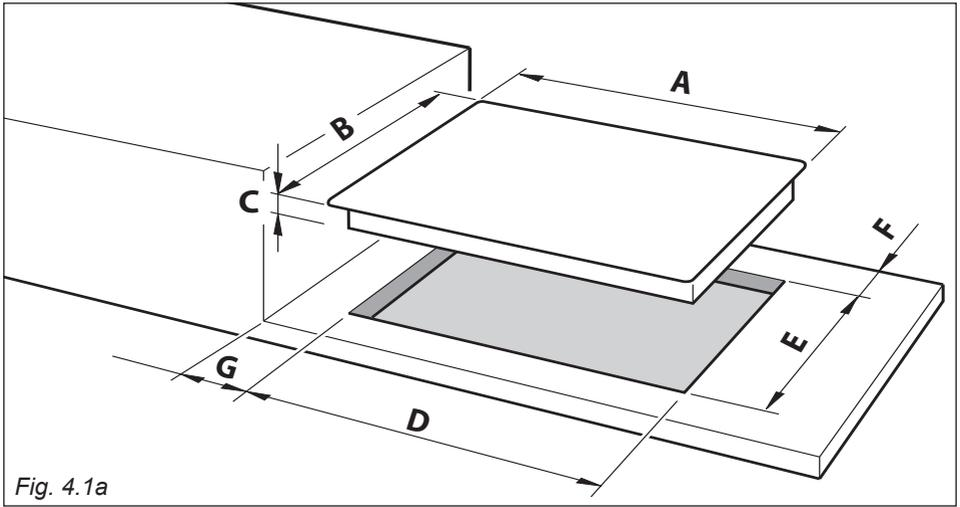

Fig. 4.1a
In order to install the cooker top into the kitchen fixture, a hole with the dimensions shown in fig. 4.1a has to be made, bearing in mind the following:
- The cooker top must be kept no less than 50 mm away from any side wall (from side edge of cutout - figs. 4.1a, 4.1b).
- The hob must be installed at least 50 mm from the wall (from rear edge of cutout - fig. 4.1a).
- Cut the unit according to the dimensions in fig. 4.1a.